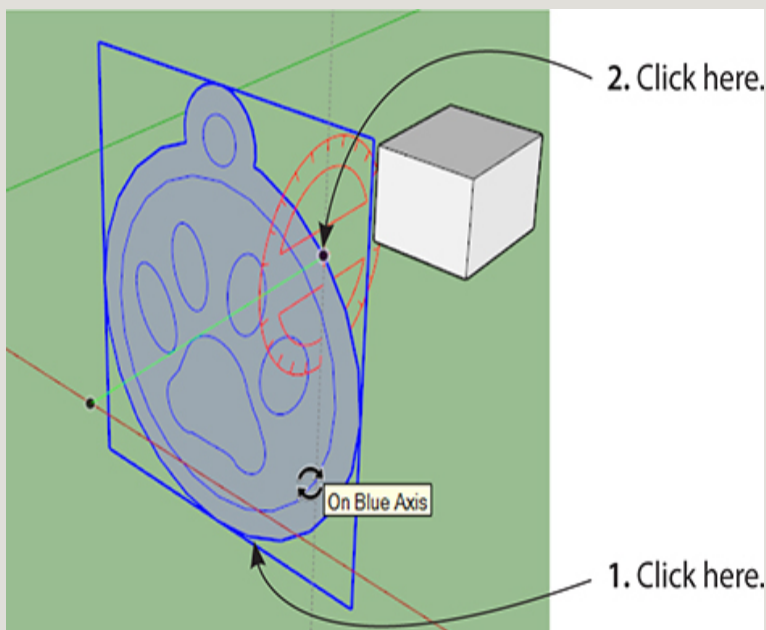

Figure 3-65 Rotate the grouped tag upright.
7. Rotate the grouped tag upright (Figure 3-65). Model a cube, and run the Rotate tool over it to make the red cursor appear. Hold the SHIFT key down to lock that orientation. Then move it to the group, click at two points, and position it parallel to the blue axis. Watch for the On Blue Axis inference while rotating it upright.